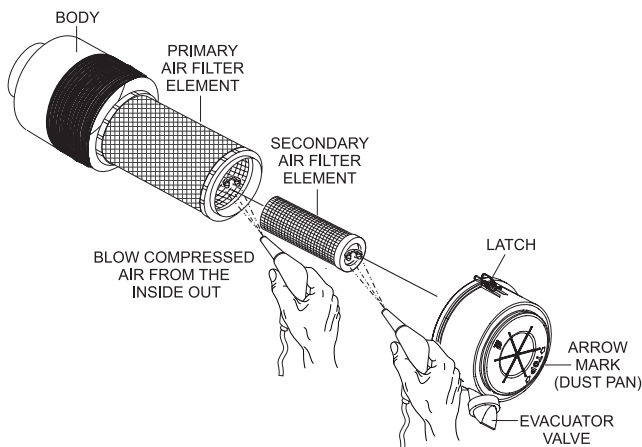

Figure 62. Engine Air Cleaner
The air cleaner (Figure 62) included with this Isuzu diesel engine is equipped with a replaceable, high-density, paper air filter element. The air cleaner is also equipped with an inner (secondary) element that is used as a backup filter should the primary element become damaged. Check the air cleaner daily or before starting the engine. Replace the air cleaner as needed.
1. Release the latches that secure the cover to the air cleaner body (Figure 62).
2. Remove the **air cleaner cover** (Figure 62) and set it aside.
3. Remove both the primary and secondary air cleaner elements (Figure 62).
5. To clean the **primary element** (paper air filter) as shown in Figure 62, tap the filter element several times on a hard surface to remove dirt, or blow compressed air, not to exceed 30 psi (207 kPa, 2.1 kgf/cm²), through the filter element from the inside out.
8. Clean the inside of the **air cleaner body** (Figure 62).